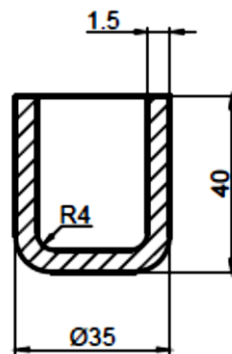

Figure 1
Q. 1. Attempt **any FOUR** questions. (20)
Q. 2. (a) Explain in detail the shearing action in Press working with suitable sketches (10)
- (b) For a drawn cup shown in Figure 1, Calculate the following: - (10)